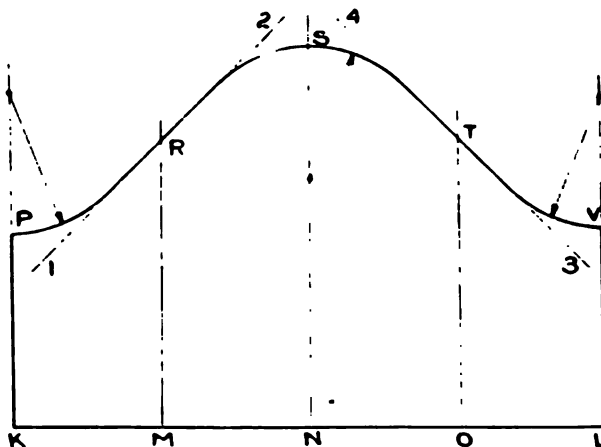

Fig. 2.
For forgings, the section should be drawn "finish & over" in black. See Fig. 2.
Make section lines as shown in Fig. 2, making dis-between lines in proportion to the area sectioned.
g. 1 we have a view of a right bow in two pieces. The pattern vertical pipe is shown in Fig. 2. in Fig. 2, lay off KL equal in o $3\frac{1}{8}$ times the diameter A B. will be seen, is another approximation much more readily laid off r enough to the theoretical to be cially correct. Next divide KL r equal parts and erect perpendicular K L. at the five points shown.